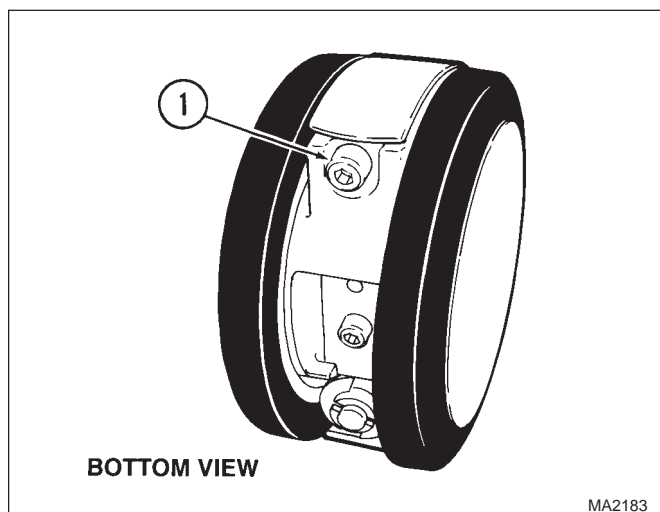

Figure 4-60. Caster Brake Adjustment
- (2) If a caster is not braking properly, tighten adjusting screw (1, Figure 4-60) a couple of turns.
- (3) Attempt to move the surgery table and observe the caster which was adjusted. If the caster makes a ratcheting noise and rotates, the caster was not adjusted tightly enough and step 2 should be repeated as necessary.
- (4) Raise the brake pedal to the neutral position.
- (5) Attempt to move the surgery table and observe the caster which was adjusted. If the caster makes a ratcheting noise *now*, the caster brake was adjusted too tightly. Adjusting screw (1) should be loosened slightly, until the ratcheting noise stops. Then repeat step 3 to recheck the brake adjustment. If the caster did not make a ratcheting noise, the adjustment procedure is complete.